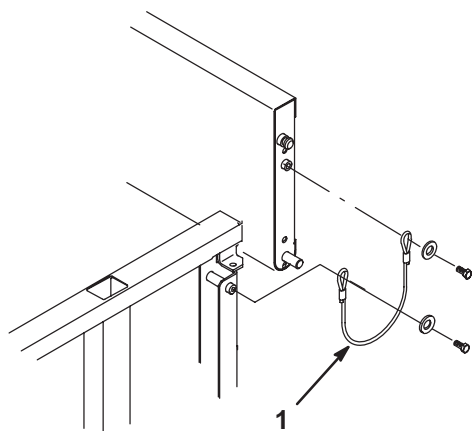

Figure 4
10. Mount each end of lanyard to side panel and tailgate with a 5/16–18 x 5/8" lg. capscrew and flat washer (Fig. 4).